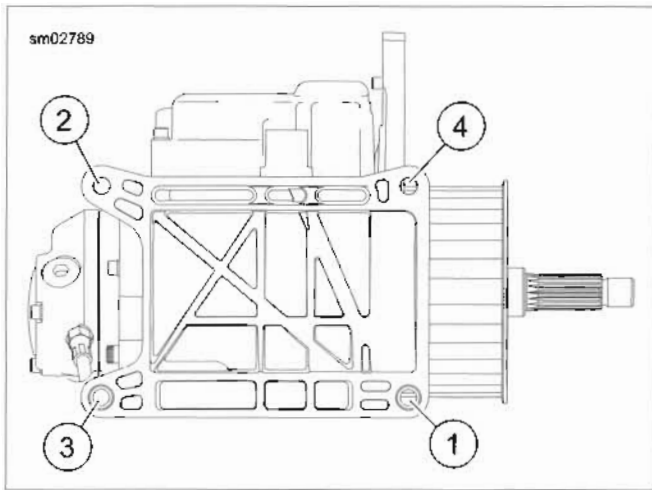

Figure 3-16. Transmission Case Hardware
- See Figure 3-16. Install transmission case from the right side. Align all four transmission mounting holes verifying that the two lower locating dowels engage their holes in crankcase.